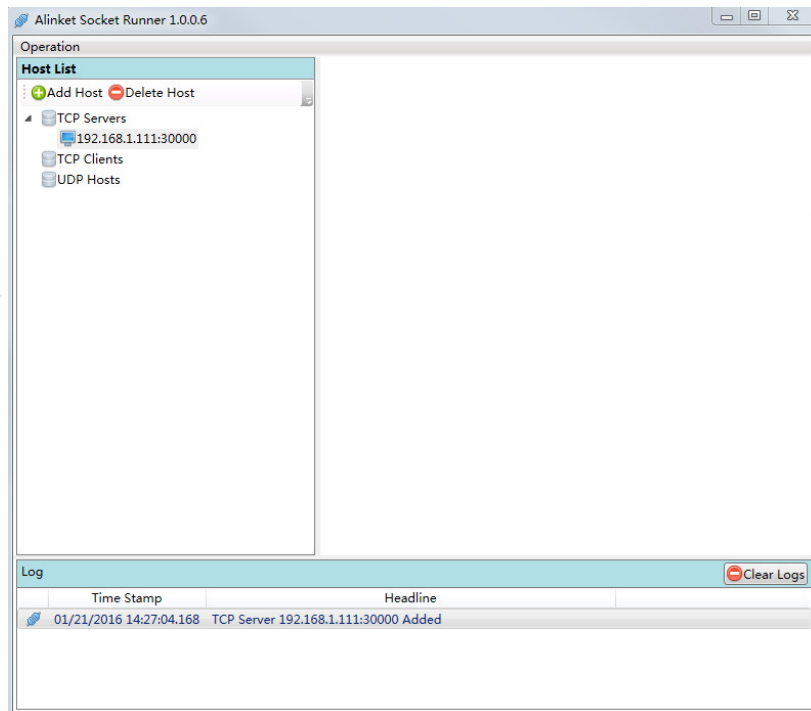

Figure 15 TCP/UDP Tool (Server)
6. Open "Alinket Socket Runner". Create server and fill in the port number. Shown as Figure 15.